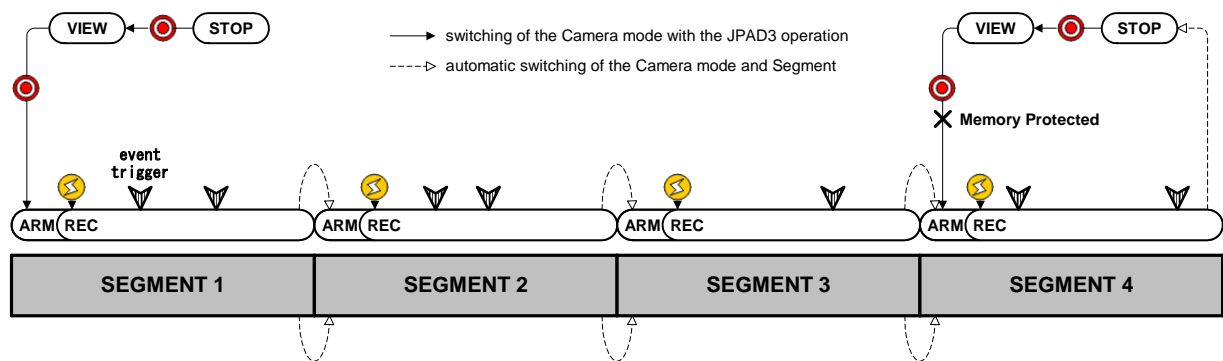

Figure 3-43 Event Recording (EVENT(A), Number of Segments: 4)
Figure 3-43 shows how to switch modes with the J-PAD3 during EVENT(A) recording (top of the figure) and saving in the memory (bottom of the figure). EVENT (A) refers to event recording in the AUTO mode.
- 3) Use the arrows   to select "SYNC SEL" from the SYS MENU (Figure 3-43).